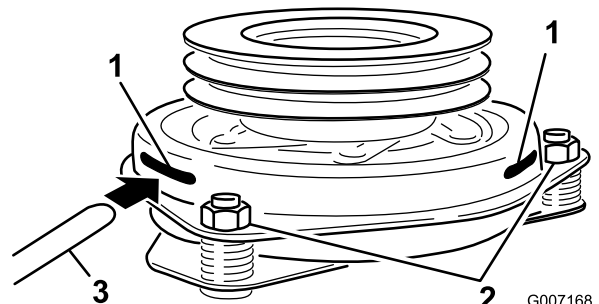

Figure 78
9. Insert a 0.381 to 0.533 mm (0.015 to 0.021 inch) feeler gauge through an inspection slot in the side of the assembly (Figure 78).
10. Tighten the locknuts until there is slight binding on the feeler gauge but it can be moved easily within the air gap (Figure 78).